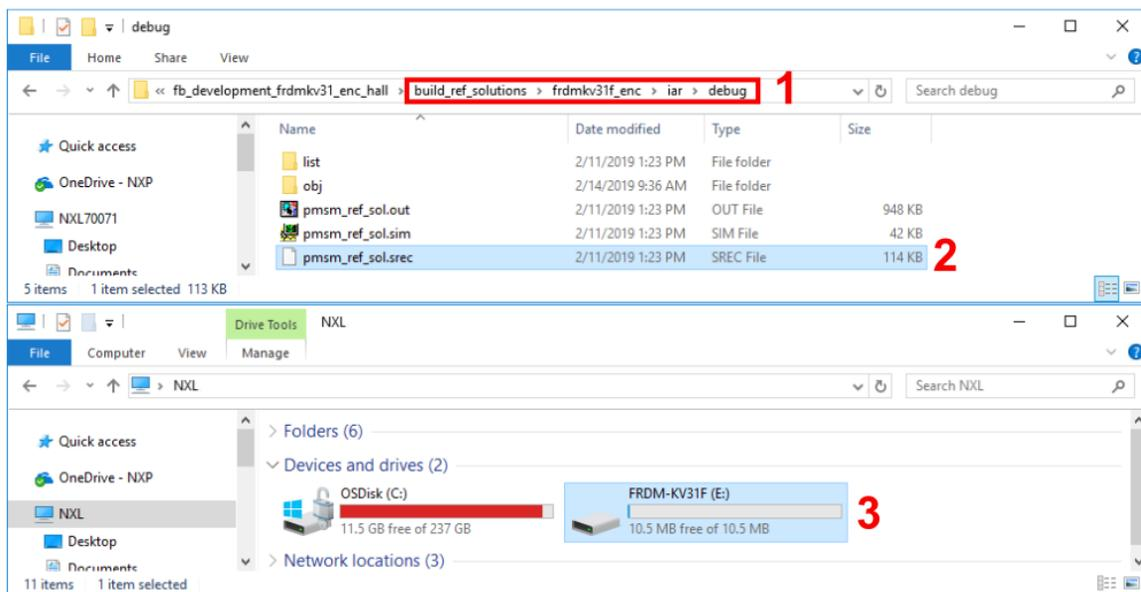

Figure 20. OpenSDA MSD
2. Locate the generated S-record file (*.srec, *.s19, or *.bin file extension), Point 1 (Figure 20).